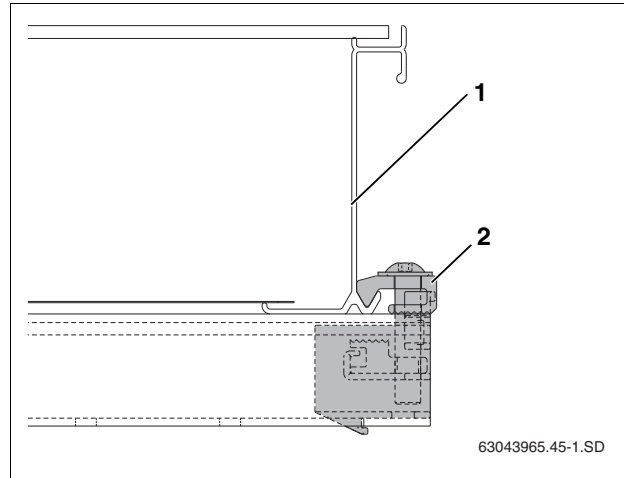

Fig. 41 Single-sided collector clamp screwed in place
- ▶ Carefully push collector (Fig. 41, [1]) up against the single-sided collector clamp and align horizontally.
- ▶ Tighten the screw on the single-sided collector clamp (Fig. 41, [2]) using size 5 Allen key.
The hook on the collector clamp (Fig. 41, [2]) now grips the lower collector edge.